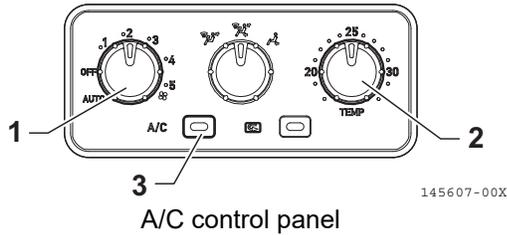

Fig. 2-108
1. Turn the air conditioner switch (**Fig. 2-108, 3**) OFF. (The lamp goes off.)
2. Turn the blower air volume setting dial (**Fig. 2-108, 1**) OFF.
The air conditioner also stops only by turning the blower air volume setting dial (**Fig. 2-108, 1**) OFF.